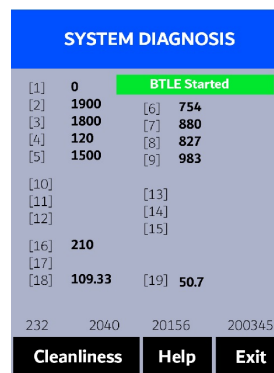

Figure 7.
Press **Diagnosis** () to launch the **SYSTEM DIAGNOSIS** screen where raw measurement data are displayed (Figure 7). The information has no use for normal operation, but instead is used for device troubleshooting. Provide an image of both the **DEVICE INFORMATION** screen and the **SYSTEM DIAGNOSIS** screen when you contact Pyxis (service@pyxis-lab.com) for troubleshooting your device or call +1 (866) 203-8397.
4. Allow 5–10 seconds for the message in the top-right corner of the display change from **Starting BTLE...** to **BTLE Started** (Figure 7).